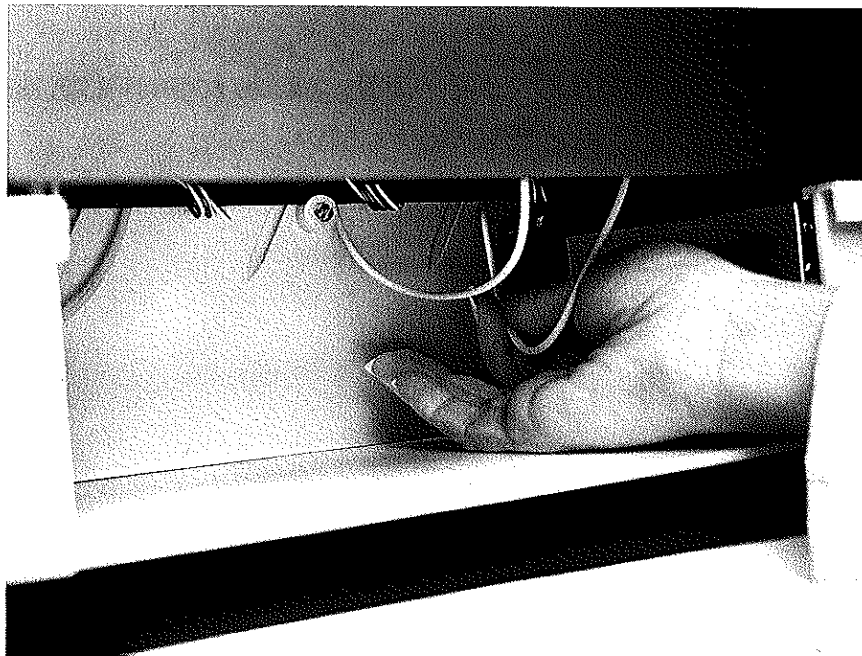

Figure 8-10
7. Remove the waste tank and reach underneath the platen through the waste tank area. Disconnect the stain tubing from the platen by pulling the tubing free from behind the circuit board (Figure 8-10), then disconnect it from the spout under the platen.